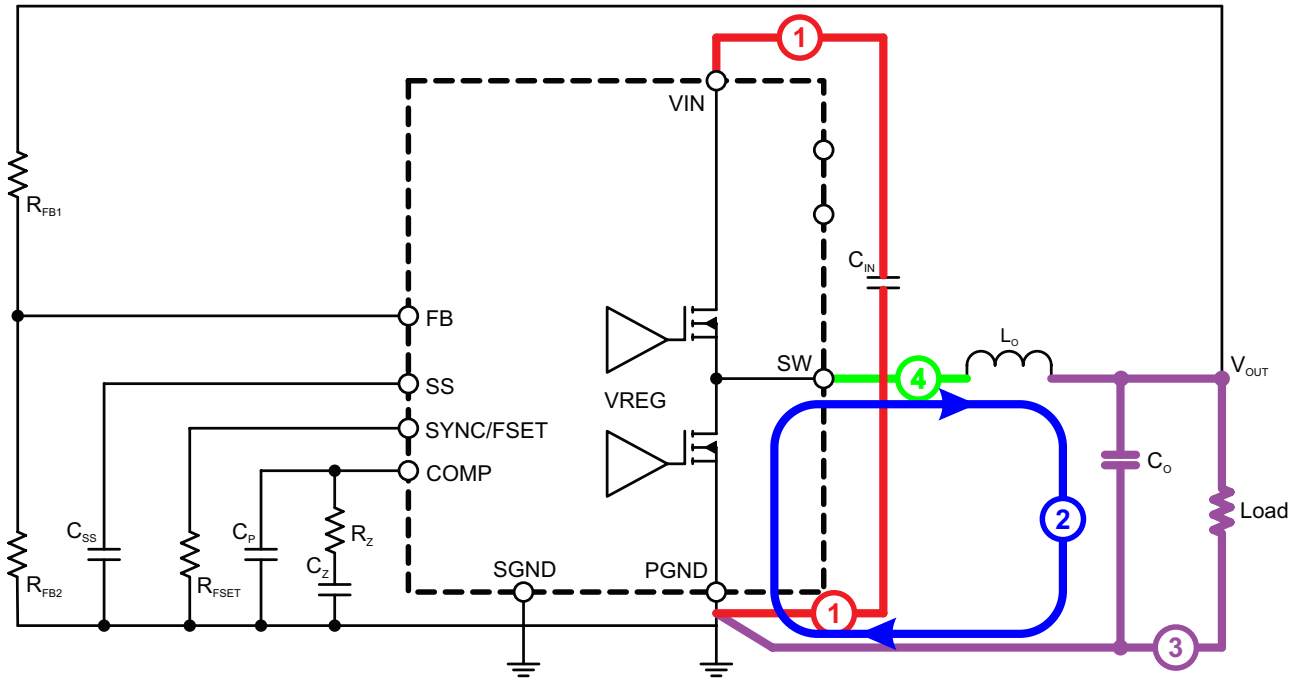
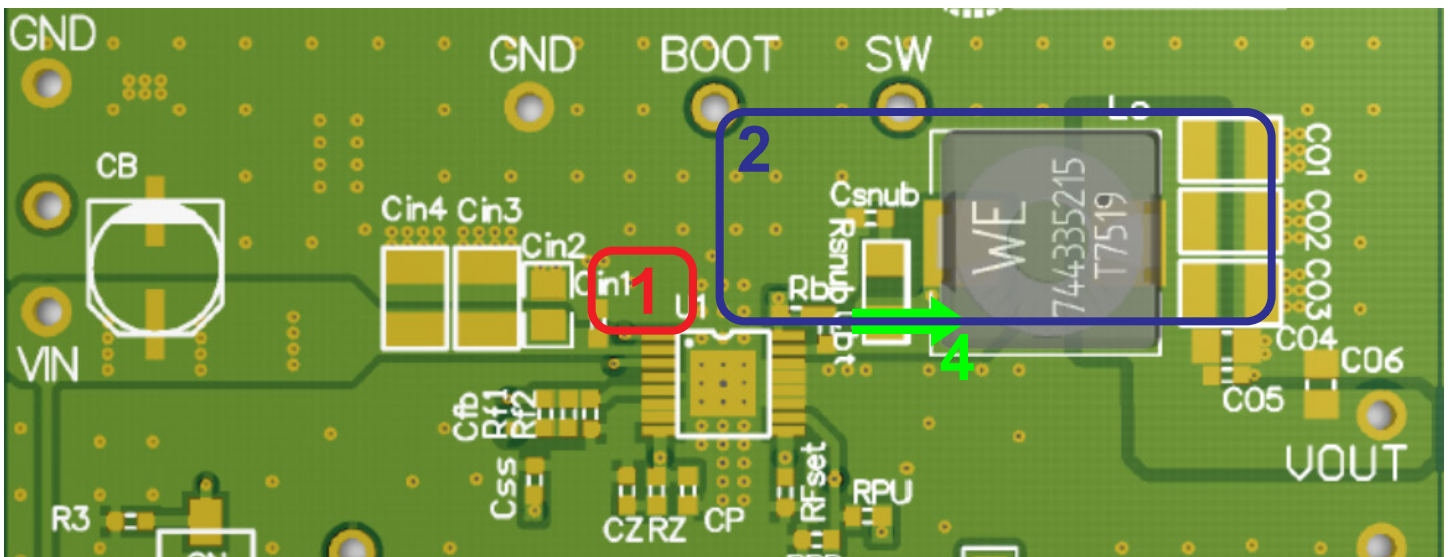

Figure 7: Typical Synchronous Buck Regulator
Figure 8: Example PCB Component Placement and Routing
A good PCB layout is critical for the A8654 to provide clean, stable output voltages. Follow these guidelines to ensure a good PCB layout. Figure 7 shows a typical buck converter schematic with the critical power paths/loops. Figure 8 shows an example PCB component placement and routing with the same critical power paths/loops from the schematic.
1. Place the ceramic input capacitors as close as possible to the VIN pin and GND pins to make the loop area minimal; and the traces of the input capacitors to VIN pin should be short and wide to minimize the inductance. This critical loop is shown as Trace 1 in Figure 7 and Figure 8. The larger input capacitor can be located further away from VIN pin. The input capacitors and A8654 IC should be on the same side of the board with traces on the same layer.
3. When the high-side MOSFET is off, free-wheeling current flows from ground, through the synchronous low-side MOSFET, into the load via the output inductor, and back to ground. This loop should be minimized and have relatively wide traces. This loop is shown as Trace 2 in Figure 7 and Figure 8.
4. Place the output capacitors relatively close to the output inductor (L_O) and the A8654. Ideally, the output capacitors, output inductor and the controller IC A8654 should be on the same layer. Connect the output inductor and the output capacitors with a fairly wide trace. The output capacitors must use a ground plane to make a very low-inductance connection to the GND. These critical connections are shown as Trace 3 in Figure 7.
5. Place the output inductor (L_O) as close as possible to the SW pin with short and wide traces. This critical trace is shown as Trace 4 in Figure 7 and Figure 8. The SW node voltage transitions from 0 V to V_{IN} and with a high dV/dt rate. This node is the root cause of many noise issues. It is suggested to minimize the SW copper area to minimize the coupling capacitance between SW node and other noise-sensitive nodes. However, the SW node area cannot be too small in order to conduct high current. A ground copper area can be placed beneath the SW node to provide additional shielding. Also, keep low-level analog signals (like FB, COMP) away from the SW polygon.